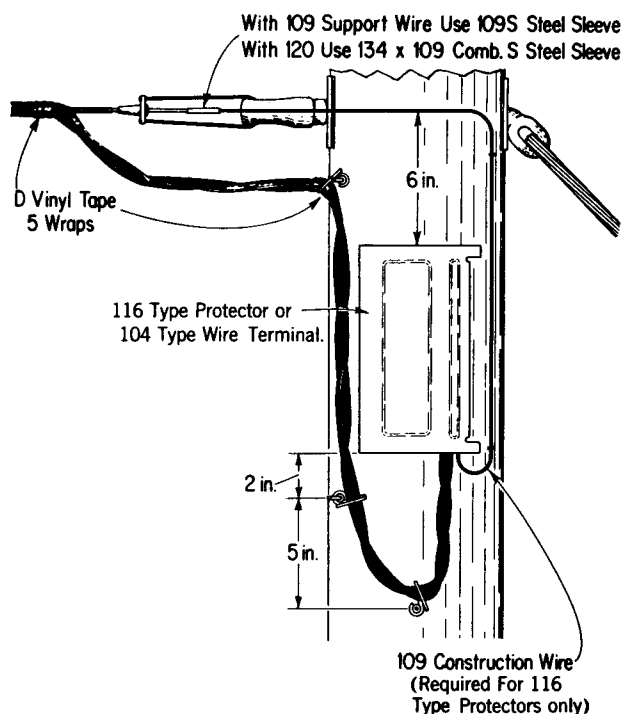

Fig. 12 – At Wire Deadend Pole
4.01 At wire deadend poles, 6-pair wire terminals or protectors can be located as shown in Fig. 12.